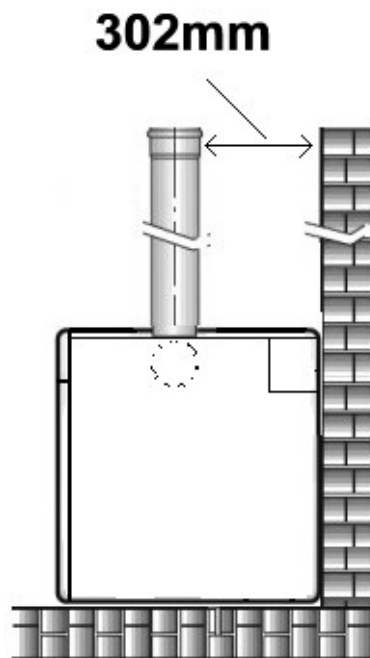

Fig. 16b
5.5.2 Concentric vertical flue (see fig. 16b)